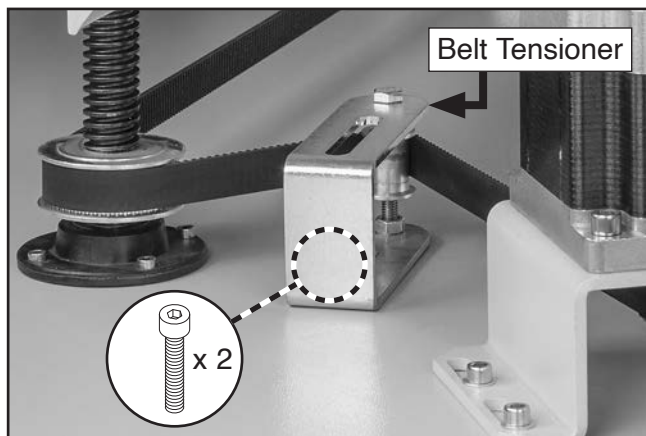

Figure 77. Example of Z-axis belt tensioner components.
6. To adjust belt tension, loosen (2) cap screws on belt tensioner, adjust belt tensioner towards or away from belt, then secure cap screws (see **Figure 77**). Repeat **Step 5**.